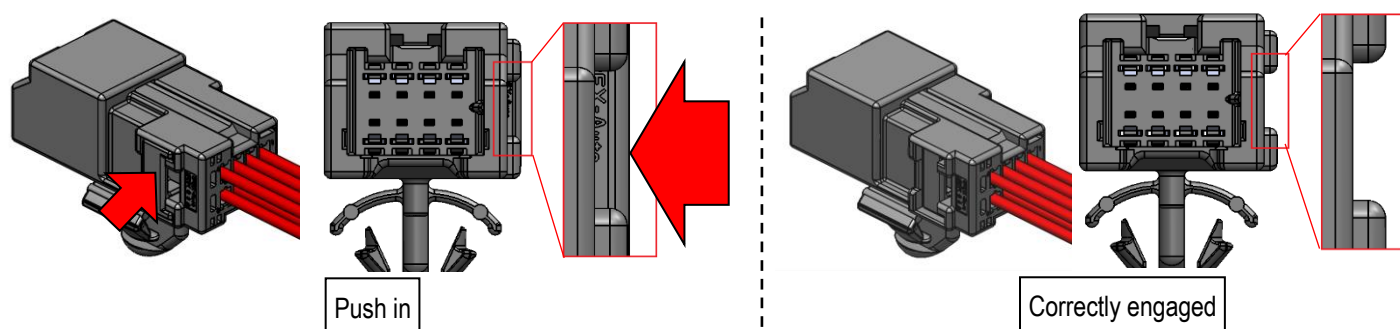

Fig.33 Installation of Retainer
- ② Push the male retainer perpendicularly to the male housing as shown in Fig.33 after male terminal insertion is complete. You will hear audible click when the male retainer is engaged properly.
- ③ Check that the male retainer is completely pushed, i.e. aligned with the side surface of the male housing. Do not push the male retainer forcefully when it cannot be completely pushed. Check that the male terminals are inserted correctly and sufficiently, and repeat the insertion procedure in 4 (sheet 14). Insert all the terminals properly, and push the male retainer until audible click is heard.